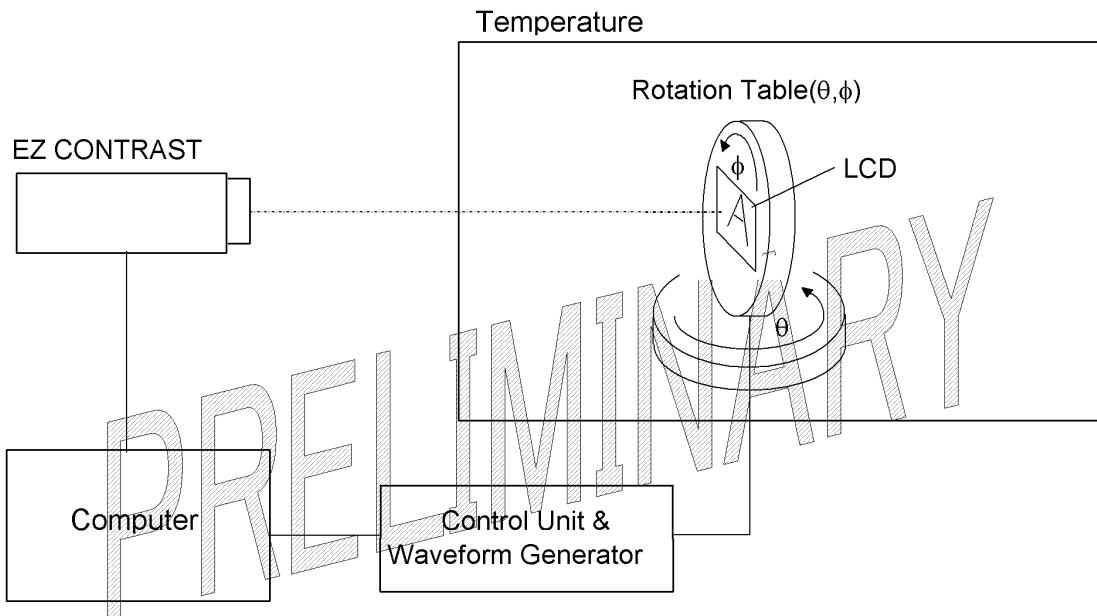

Fig. 3
- ◆ Method of Viewing Angle Measurement (Fig.3)
- (1) Measuring Device